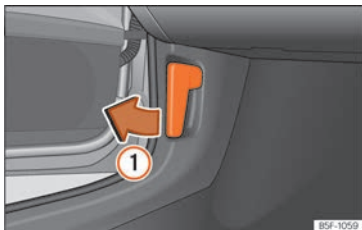

Fig. 12 Release lever in the driver's footwell area.
- Open the door and pull the lever under the dashboard »» Fig. 12 ①.